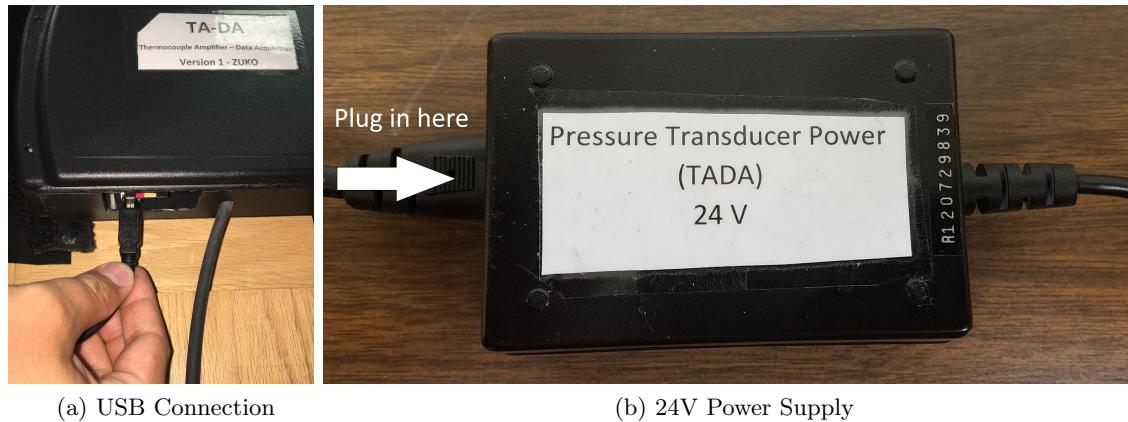

Figure 4: TADA Connections
9. Connect the TADA to the lab computer via the USB cable mounted under the edge of the hood (see Figure 4)
10. Plug in the wall power to the TADA 24-volt power supply (see Figure 4)